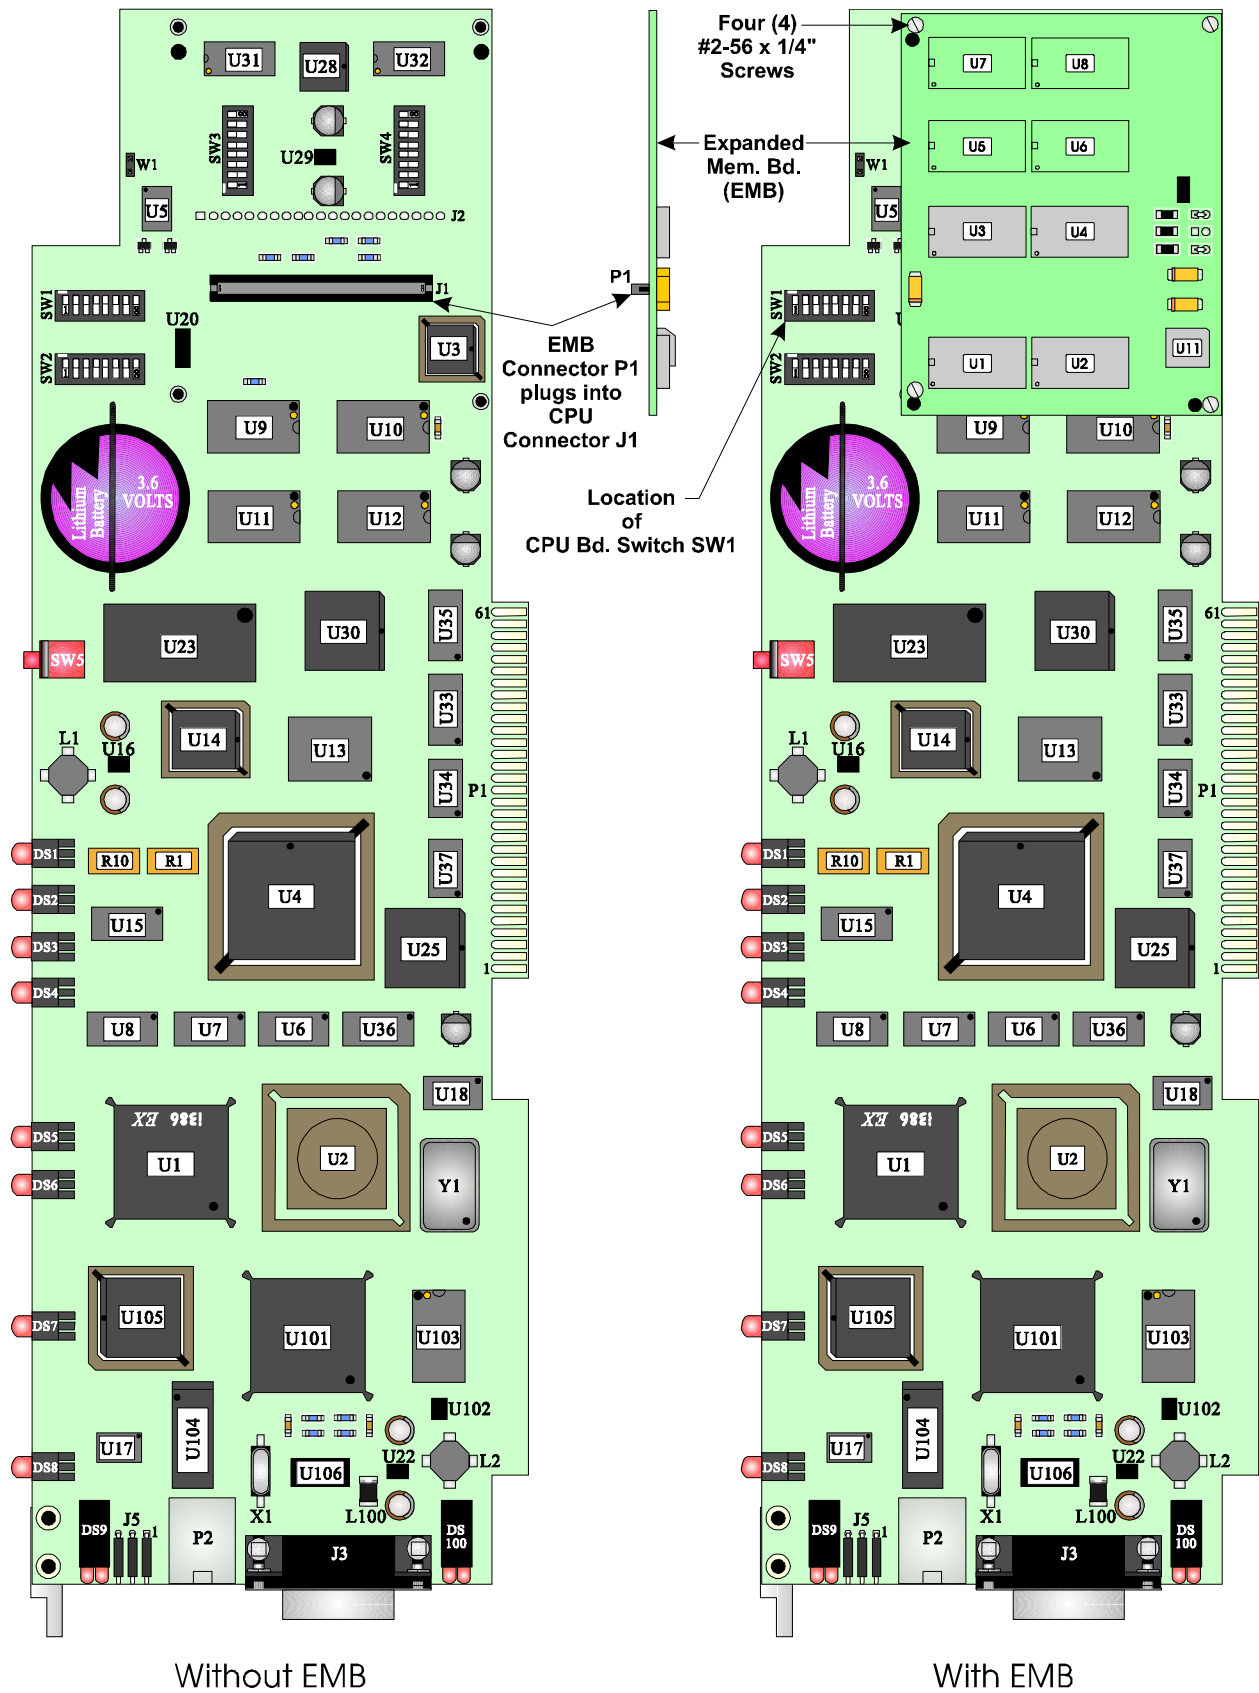
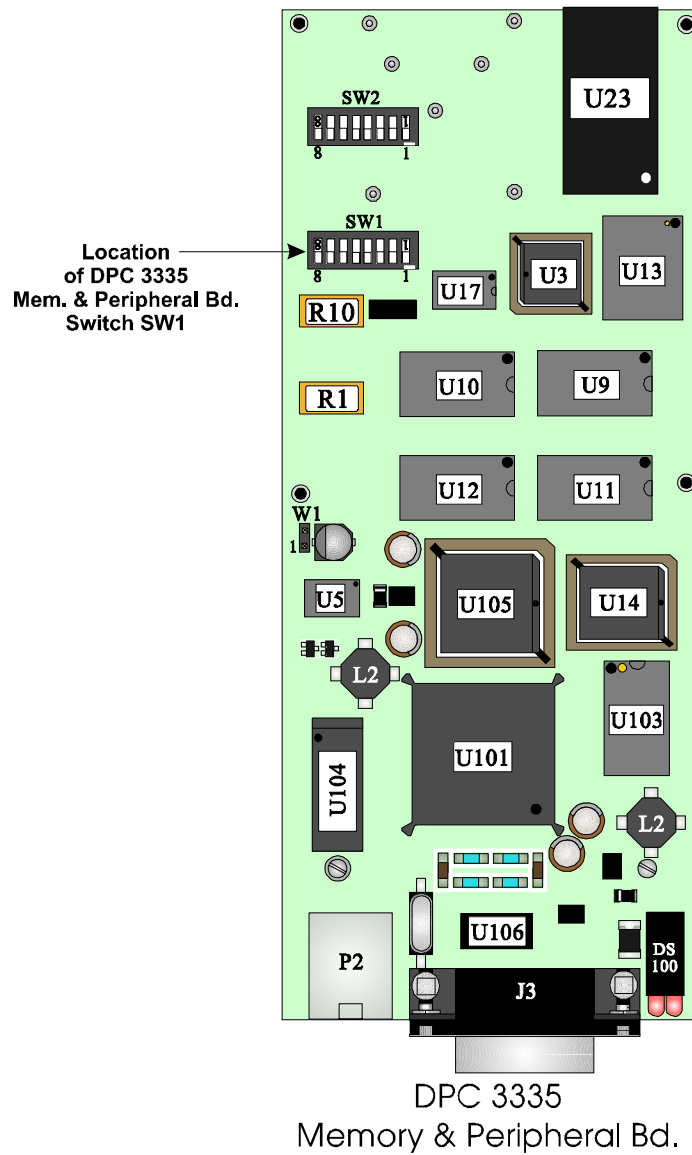

Figure 1 - DPC 3330 Ethernet CPU Assembly (with & without EMB)
Figure 3 - DPC 3335 Memory & Peripheral Board (Shown with Ethernet)
3. Remove the four (4) #2-56 x ¼” screws that secure the Expanded Memory Board (EMB) to the CPU Board (see Figures 1 & 2).
To prevent this problem or correct it after it has occurred, shut off power to the unit, remove the CPU Board (from the SIB) and remove the Expanded Memory Board (if still installed), then set SW1-1 (on the 3330’s CPU Board - see Figure 1 or 3335’s Memory & Peripheral Board - see Figure 3) to its OFF position. Re-install the CPU Assembly and apply power. This will put the CPU Board into the FLASH download mode. Shut off power to the unit and set SW1-1 on the CPU Assembly to its ON position and then reapply power to the unit. The CPU should now work properly. Aside from entering FLASH download mode, all memory size information will also have been cleared. This will be restored the next time the CPU goes through self-test.